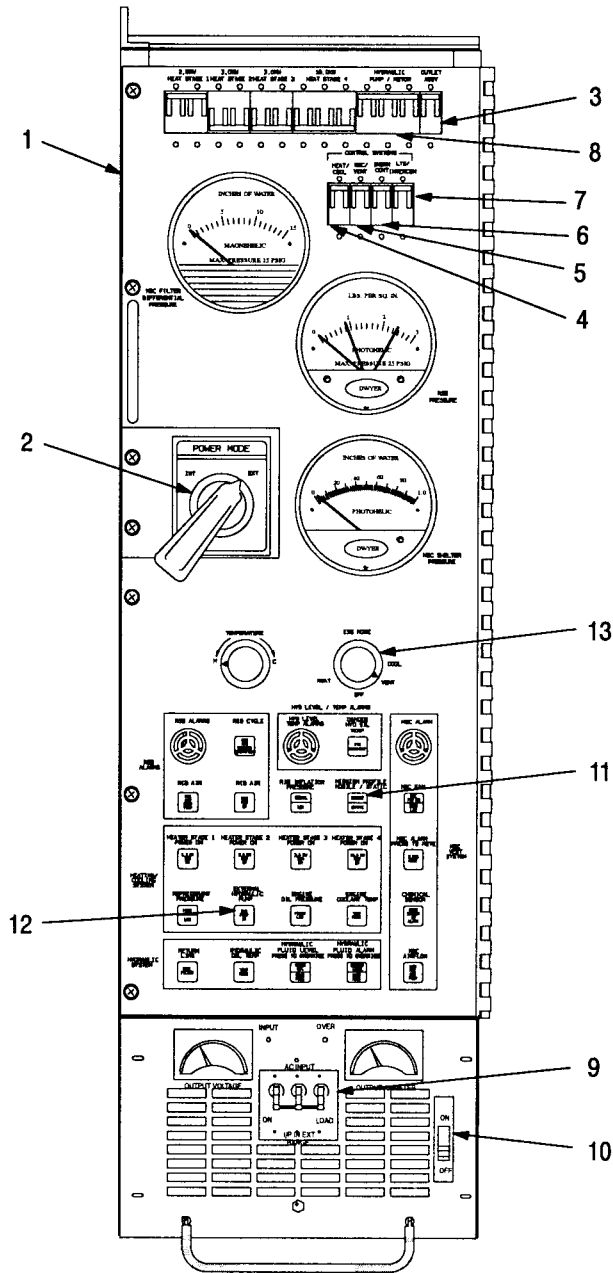

Figure 2-36. External Power Control Setting - NBC Conditions
- (1) On rear control panel (1, figure 2-36), set POWER MODE switch (2) to EXT.
- (2) Ensure the following circuit breakers are set to ON:
- OUTLET ASSY (3)
- HEAT/COOL (4)
- NBC/VENT (5)
- INSTM CONT (6)
- LTG/INTERCOM (7)
- HYDRAULIC PUMP/MOTOR (8)
- (3) Set converter AC INPUT (9) circuit breaker to ON.
- (4) Set converter power switch (10) to ON.